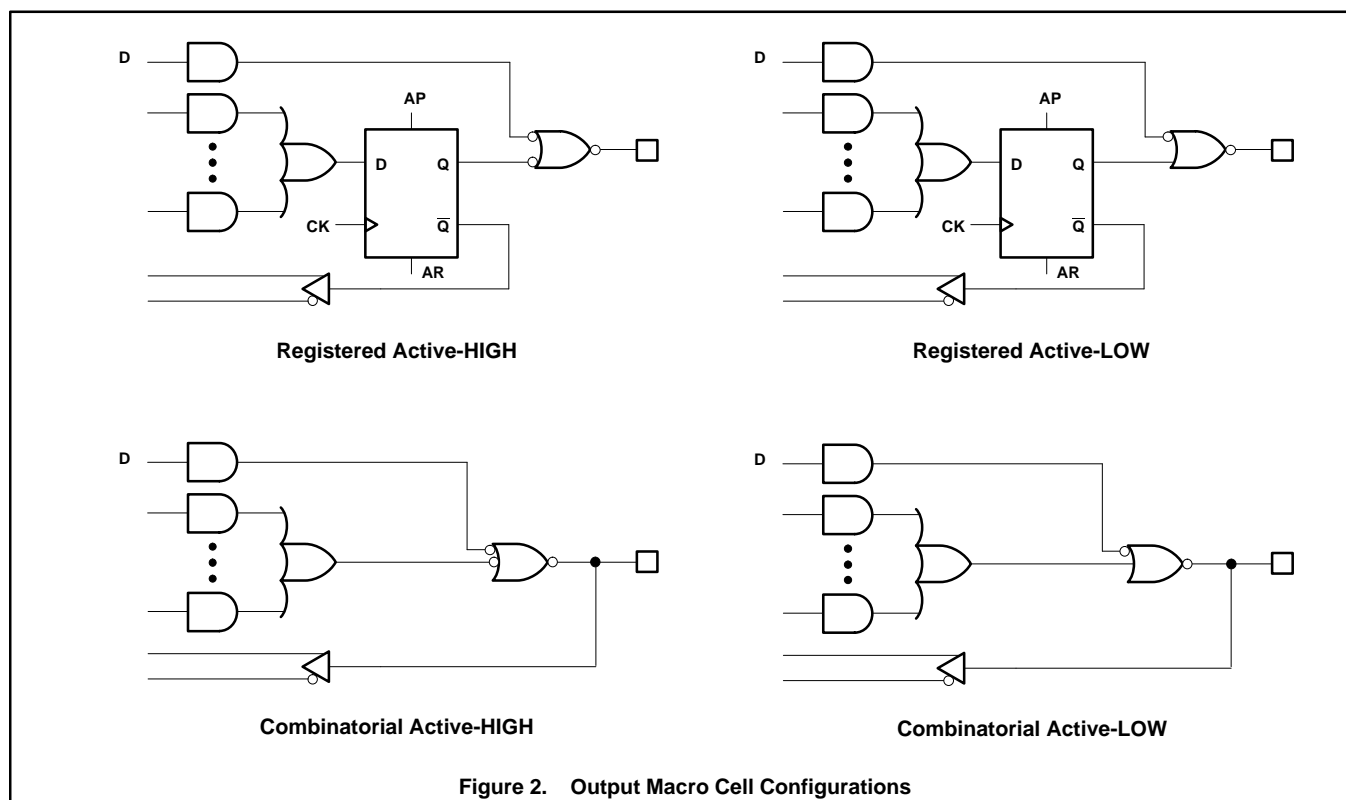

Figure 2. Output Macro Cell Configurations
Shown in Figure 2 are the four possible configurations of the output macrocell using fuses  $S_0$  and  $S_1$ . As seen, the output can either be registered Active-HIGH/LOW with feedback or combinatorial Active-HIGH/LOW with feedback. If the registered mode is chosen, the feedback from the  $\bar{Q}$  output to the AND array enables one to make state machines or shift registers without having to tie the output to one of the inputs. If a combinatorial output is chosen, the feedback gate is enabled from the pin and allows one to create permanent outputs, permanent inputs, or I/O pins through the use of the output enable (D) product term.